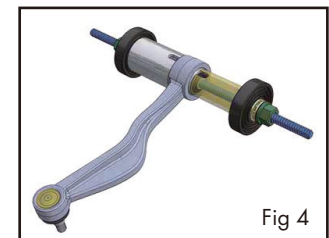

Fig 4
6. Use a spanner to rotate the nut on pushing sleeve side, and the bearing will be pushed into the bearing housing (Fig 4)